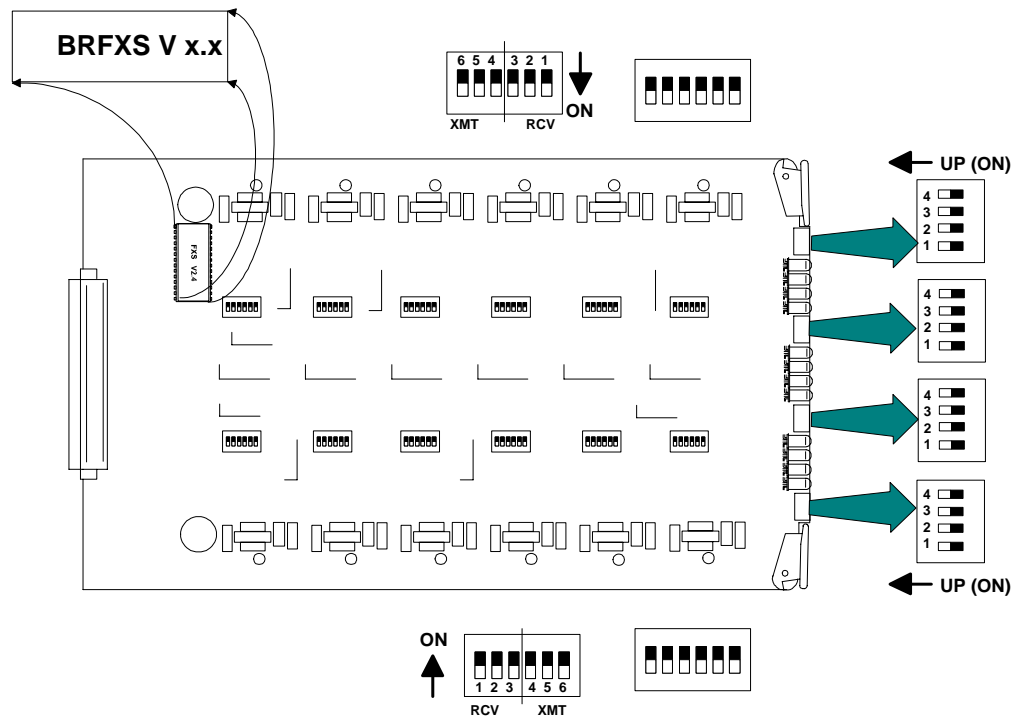

Figure 8-1: FXS Transmit and Receive Level Options
The transmit and receive attenuation levels for each FXS voice frequency channel can be set between 0 and -9 dB using twelve 6-position DIP switches (CH1 - CH12) on top of the circuit board (see Figure 8-1). Each analog channel uses a bank of six DIP switches, with three for transmit and three for receive. Operation of each set of three switches in additive. For example, setting switch 1 (-2 dB) and switch 2 (-3 dB) to OFF for any given channel selects a receive loss of -5 dB. The default setting for the transmit level is -3 dB; for the receive level it is -6 dB. The default settings are appropriate for most applications.
3. To set different transmit and/or receive gain or loss levels, refer to Figure 8-1 and Table 8-1.